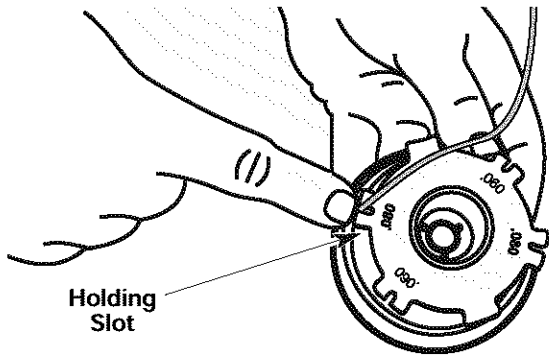

Fig. 14
7. Insert the end of the line into one of the two holding slots (Fig. 14).